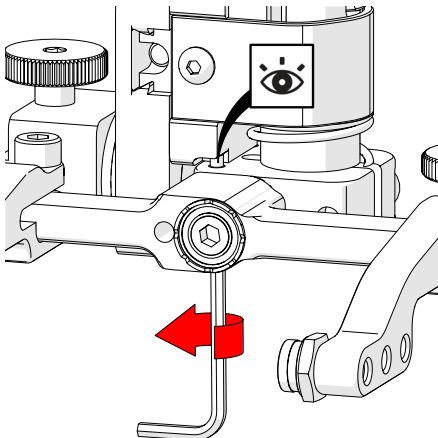

Fig. 81 - Raise opposite 90° stop post
8. Raise the stop post on the opposite side until the side of the post contacts the 90° stop point on the probe holder's base (Fig. 81).